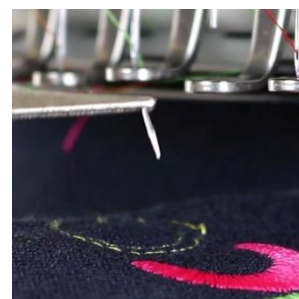

Figure 24
1. Begin by removing the broken needle part from the garment. If it is not in the garment, look into the bobbin area (Fig. 24).